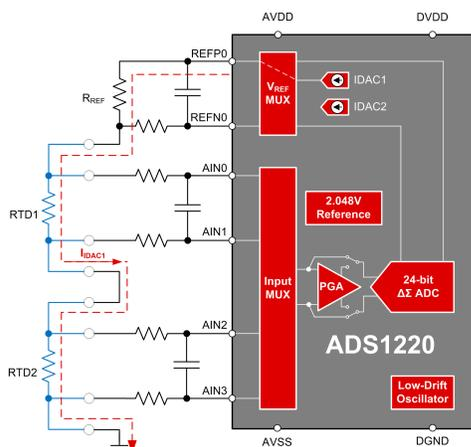

Figure 2. ADS1220 DTM Connection Diagram
Typical DTM implementations use two 2- or 4-wire resistance temperature detectors (RTDs). Figure 2 shows two 4-wire RTDs attached to the ADS1220, a 24-bit, low-power ADC operating down to 2.3 V and offered in a 3.5 mm x 3.5 mm QFN package.
The specific end-equipment defines the component selection and ADC settings for the system shown in Figure 2. As an example, Table 1 lists common DTM requirements in heat meter applications using two PT-500 RTDs.
Table 3 lists the necessary register settings to implement the configuration shown in Figure 2 and enable the parameters from Table 2.
With these settings, the system achieves a DTM resolution better than 10 mK. Additionally, the system can measure each RTD and still power down the ADC for approximately 98% of the 1 second measurement cycle. During the RTD measurements, the ADS1220 consumes approximately 965 μ A while operating at the settings shown in Figure 2.
As stated in the "Circuit Implementation" section, the diagram in Figure 2 employs a ratiometric measurement such that the voltage across the RTD and reference voltage are both proportional to the IDAC current. Therefore, calculating the RTD temperature only requires the ADC's output code and resolution (N) as well as the user-defined values for gain and R_{REF} :